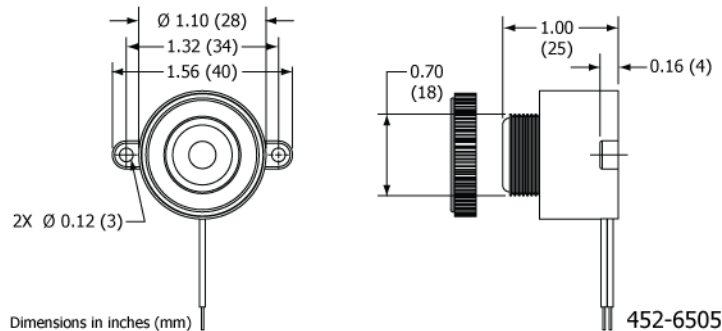

Figure 20 Buzzer Outline and Dimensions
- 1) Fabricate a bracket suitable for supporting the buzzer. See Figure 20 Buzzer Outline and Dimensions.